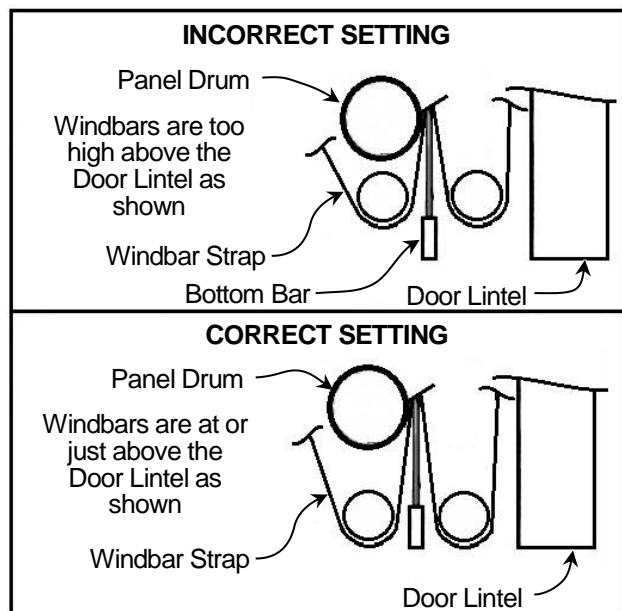

Figure 73
3. The windbar(s) should be in the position shown in Figure 73.
4. Inspect all strapped windbars (if installed). When the door is opened, a strapped windbar should be approximately at or just above the top of the door opening. When both front and rear windbars are installed, once the front windbar is properly positioned, the rear windbar should be at the same height. If the Windbars are too low they will be in the open doorway and infringe traffic. (See Figure 73)